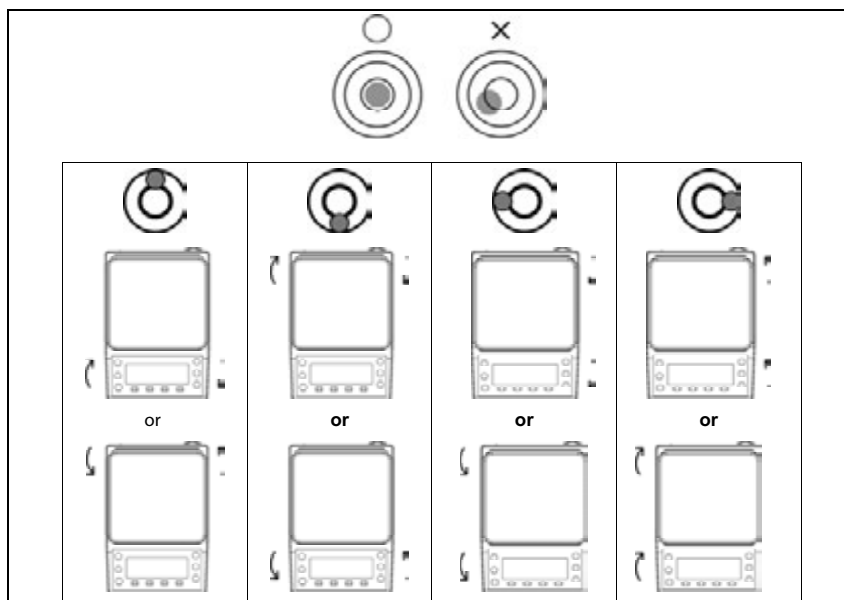

Figure 2-7. Level the Balance
2. Turn feet/adjusters until the bubble level is centered in the center circle. Figure 2-7 indicates directions to turn the feet/adjusters to move the bubble in the center.